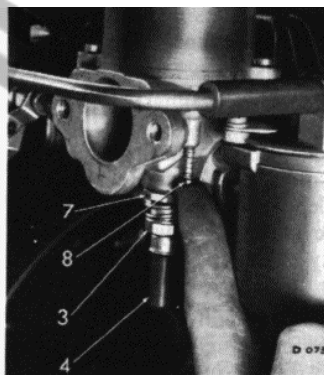

Fig. 102
Holding the jet (4) in its upper position, slacken the gland nut (7, Fig. 102) and move the jet assembly laterally until the jet is concentric with the needle, then tighten the gland nut. The piston should now fall freely and hit the jet bridge with a soft metallic click.